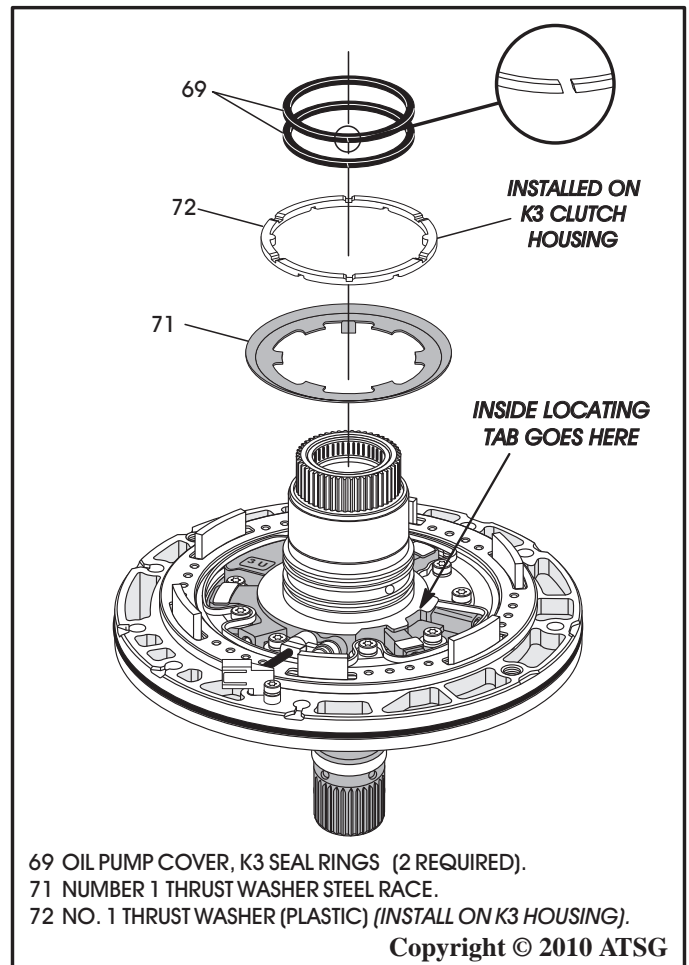

Figure 165
20. Install the number 1 thrust washer steel race, as shown in Figure 165, and retain with small amount of Trans-Jel®.
21. Install two new K3 sealing rings into grooves on pump cover, as shown in Figure 165.